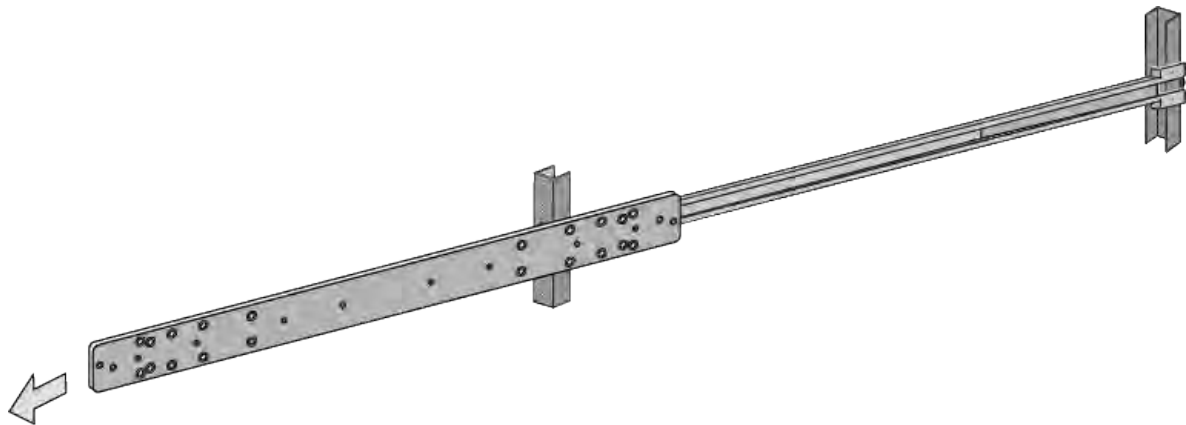

Figure 79. Removing the Inner Rail
4. Remove the inner rail from the outer rail. Refer to Figure 79.